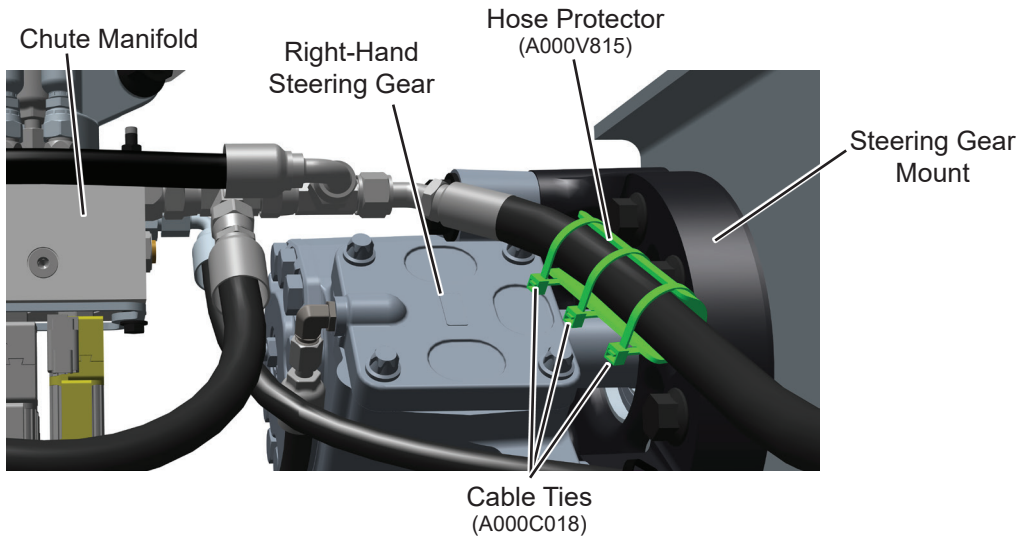

Figure 12. Hose Protector Installation
16. Install hose protector (A000V815) on hydraulic hose #3126 near right-hand steering gear mount. See Figure 12. Secure hose protector with cable ties (A000C018).